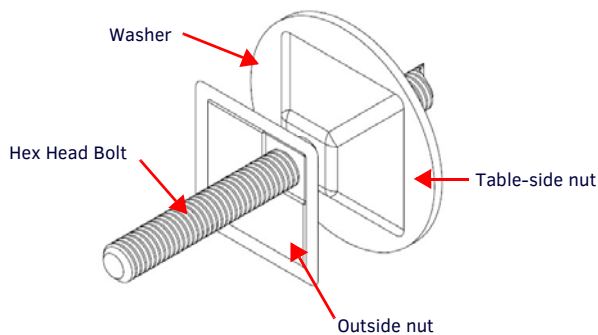
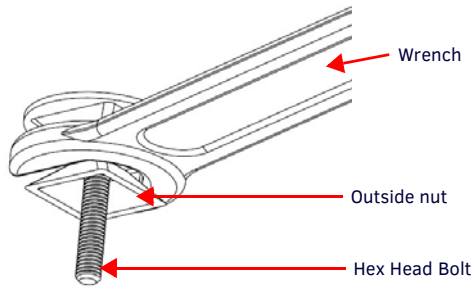

FIG. 4 TAMPER-RESISTANT NUT INSTALLATION, DETAIL
FIG. 5 TIGHTENING OF TAMPER-RESISTANT NUTS, DETAIL
- With the wide side facing away from the table surface, put the spare tamper-proof nut on the end of one of the two bolts and finger-tighten the nut (FIG. 4). With the two nuts touching, use an adjustable-head box wrench to further tighten the table-side nut (FIG. 5). DO NOT OVERTIGHTEN.